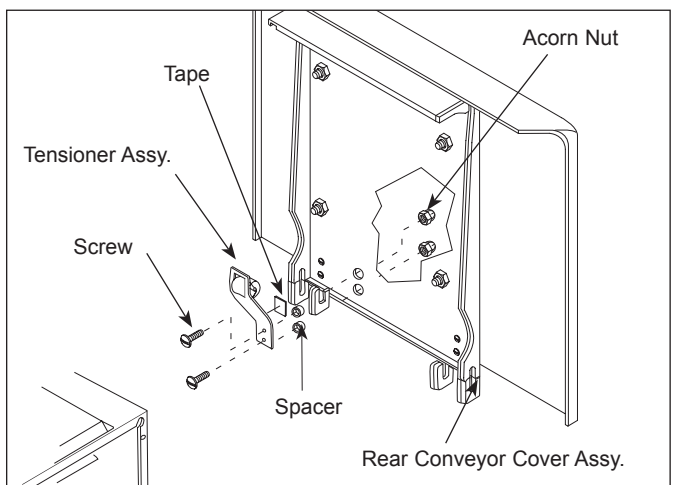

Figure 16. Replacing Roller Tensioner Assembly.
1. Remove screws from acorn nuts (Figure 16) and remove the old Roller Tensioner assembly.